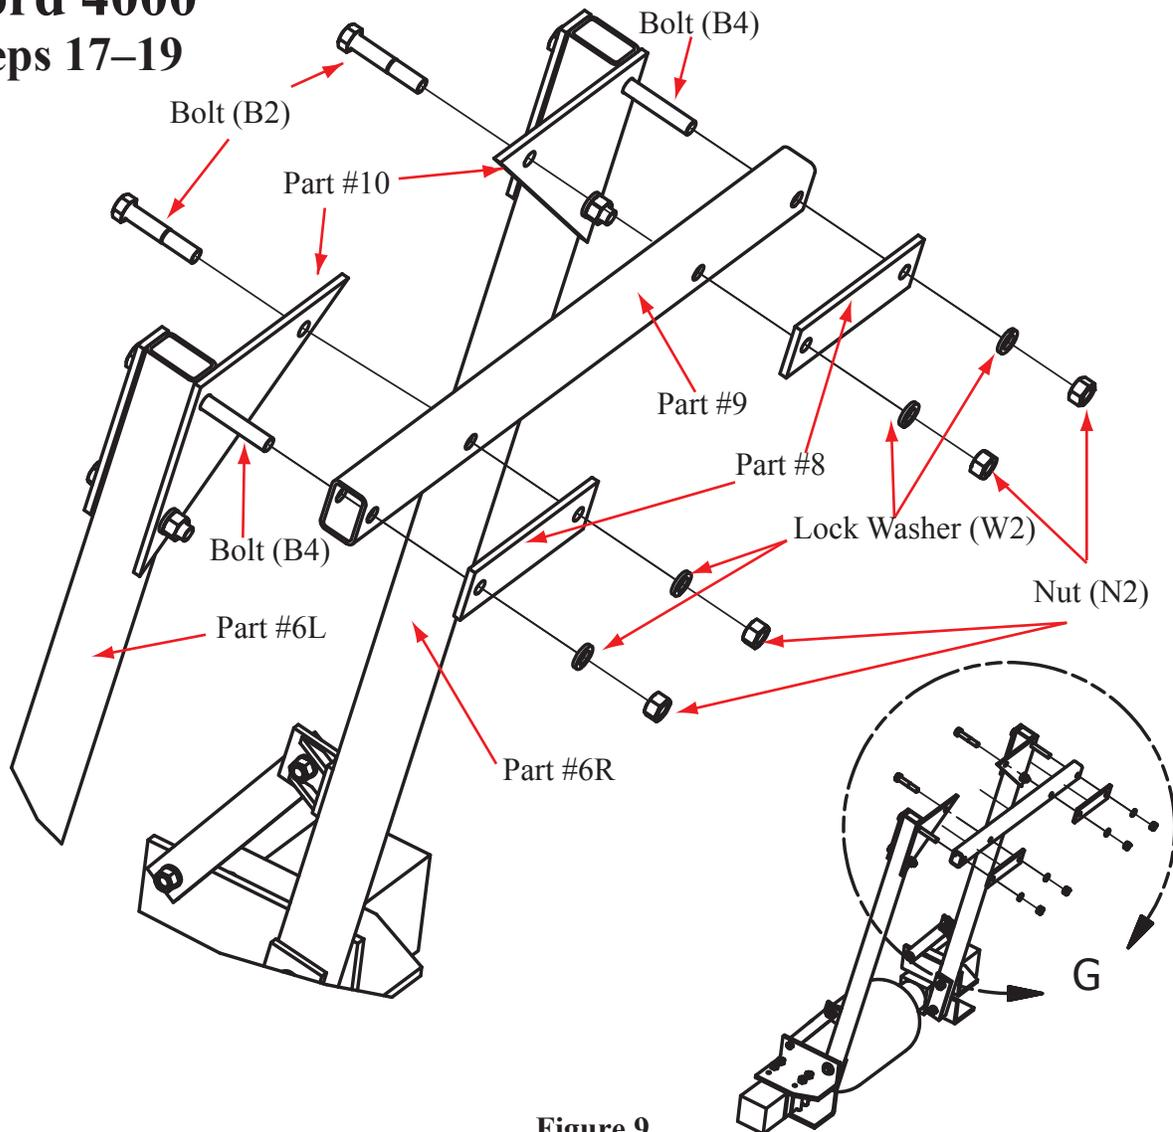

Figure 9
**Step 19.** Insert bolts (B2) through the remaining inside holes of the corner plates (#10), the cross bar (#9), and the cross bar backing plate (#8). Create a snug fit with a lock washer (W2) and a nut (N2). Snug the connections made in steps 17 and 18. (Figure 9) (NOTE: See Fender Mounting Options for torquing instructions.)